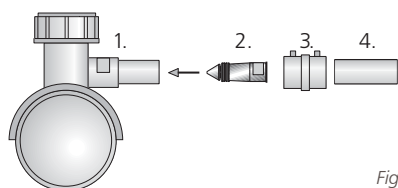
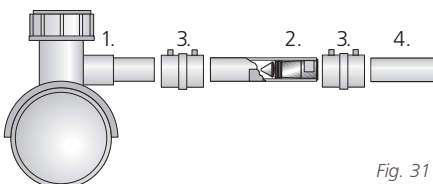

Fig. 29
Fig. 31
2. Pipelife Gas-Stop Type GS (Fig. 29 + 30) and GSA (Fig. 31)
Pipelife Gas-Stop™ units of these types can be inserted into the outlet of compatible tapping saddles (Fig. 29+30). In doing so it is to be observed, that the insertion in must be carried out without twisting and without deviation from the horizontal position. The use of mechanical tools is not permitted without prior consultation with Pipelife. To simplify the insertion – up to the stop, the lip ring can be moistened with water.
The Pipelife Gas-Stop™ is integrated in a certified pipeline section (adapter made from PE 100/SDR11) (Fig. 31+32). The sticker with the serial number and other important information for the identification of the Pipelife Gas-Stop™ is located both on the adapter as well as on the integrated Pipelife Gas-Stop™ unit.